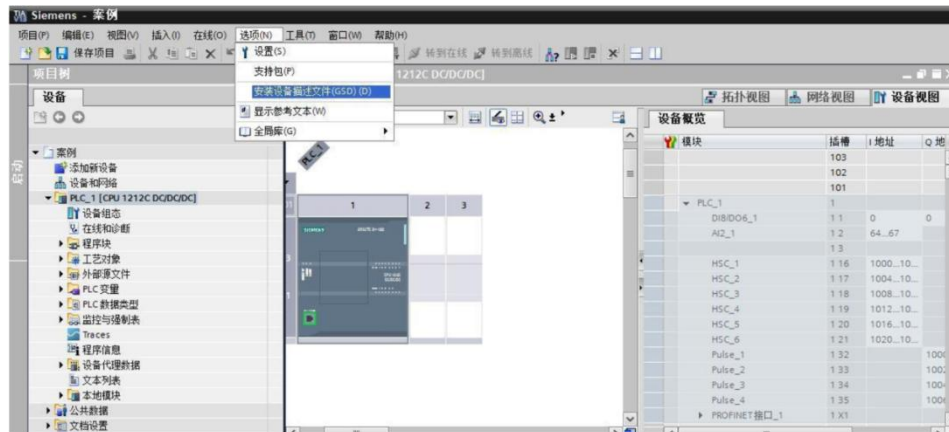
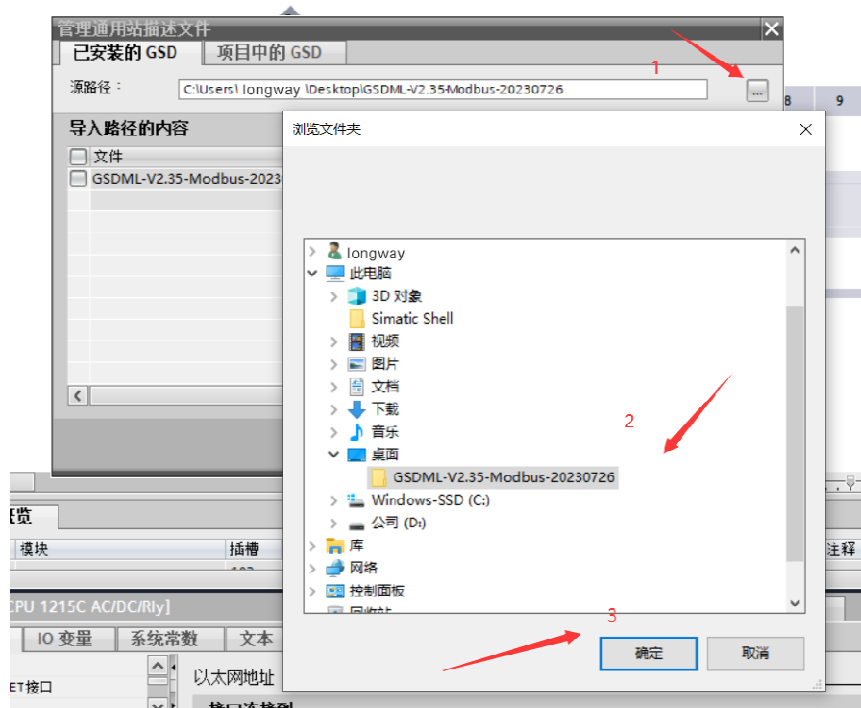

Figure 4-1
Figure 4-2
Step 1: Open the "Install device description file" window according to the path shown in Figure 4-1, and proceed to the interface shown in Figure 4-2.
Step 2: According to the steps shown in Figure 4-2, select the folder containing the GSD file and click "OK". The GSD file(s) in the folder will then be displayed, as shown in Figure 4-3.